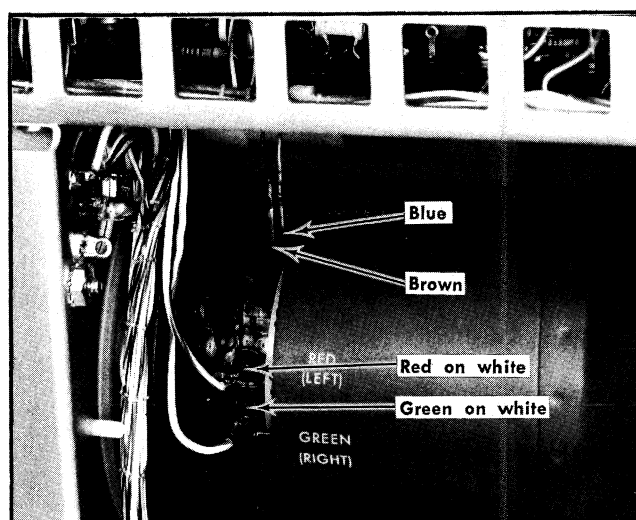

Fig. 4-6. CRT deflection plate pins and connecting wire color codes.
1. Remove the four CRT deflection plate pin connectors as shown in Fig. 4-6. Do not bend the CRT deflection plate pins.